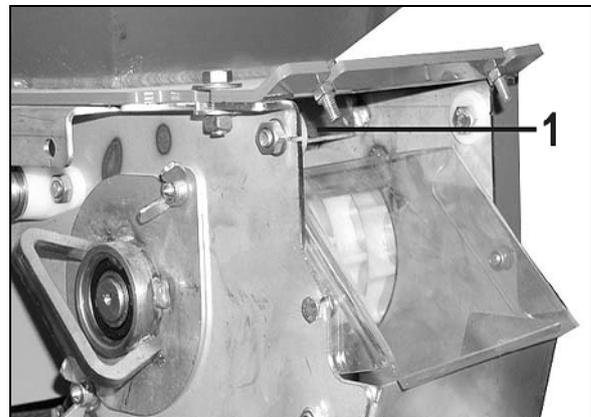

Fig. 88
2. Push the slider (Fig. 88/1) into the dosing unit up to the stop.